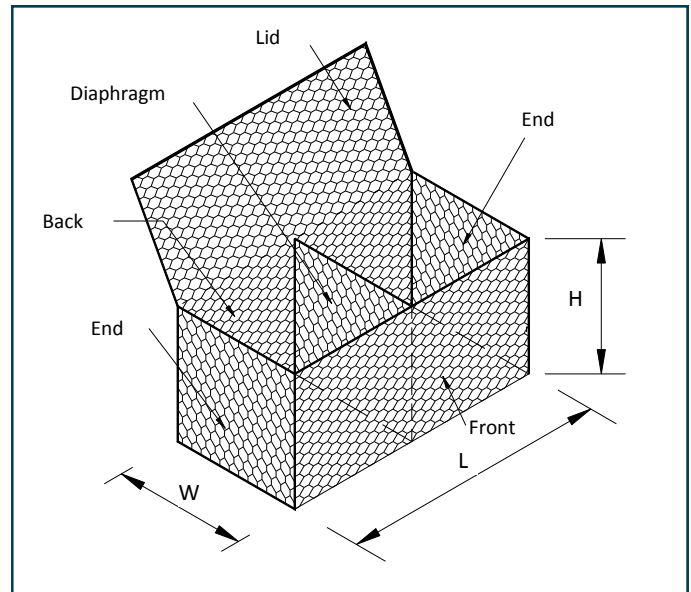

Figure 1
Gabions are baskets made of 8x10 double twisted steel woven wire mesh, as per ASTM A975-97 (Figs. 1, 2). Gabions are filled with stones at the project site to form flexible, permeable, monolithic structures such as retaining walls, channel linings, and weirs for erosion control projects.
The gabion is divided into cells by means of diaphragms positioned at approximately 1m centers (Fig.1). In order to reinforce the structure, all mesh panel edges are selvedged with a wire having a greater diameter (Table 3). Dimensions and sizes of PVC coated gabions are shown in Table 1.
- size of units (length x width x height, see Fig.1),